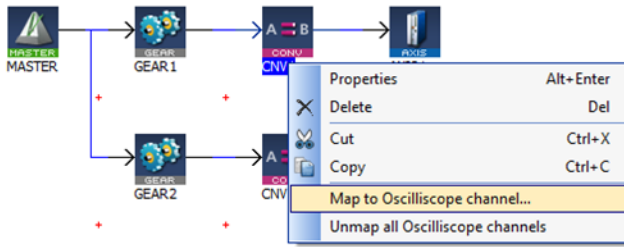

Figure 4-78: Selected menu option: **Map to Oscilloscope channel...**
3. Right-click on Gear1 and click the Map to Oscilloscope channel... option. (Figure 4-78)